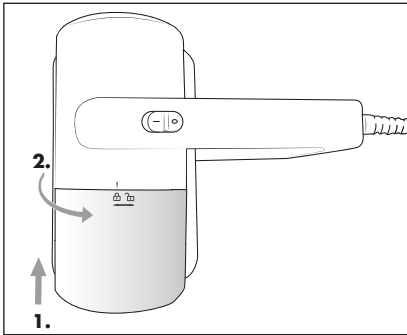

Fig. 9
- 8) Insert the dust container 4 into the appliance so that the marking on the appliance is over the symbol  (open). Turn the dust container 4 clockwise until the marking on the appliance is over the symbol  (closed) (Fig. 9).